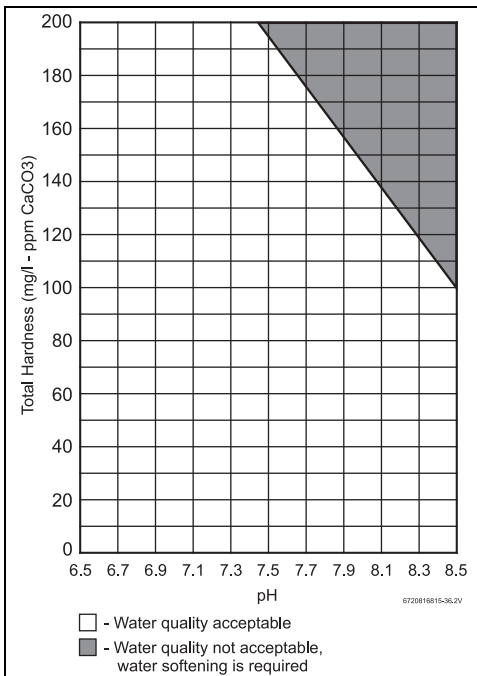

Fig. 26 Water total hardness and pH values
Water quality can have an impact on appliance longevity. Water supplied to the Greentherm T9900 SE/i must be in accordance with table 17 and fig. 26.
For water analysis data call your local water department, or if on a well, have well water analyzed periodically. Heavy scale will form if the combination of water total hardness and pH exceeds the values specified in fig. 26 (grey area), Bosch recommends consulting a local water treatment professional for water softening/conditioning options.
1. Total Harness and pH maximum values must be evaluated in combination. Indicated maximum values will be reduced according to fig. 26.